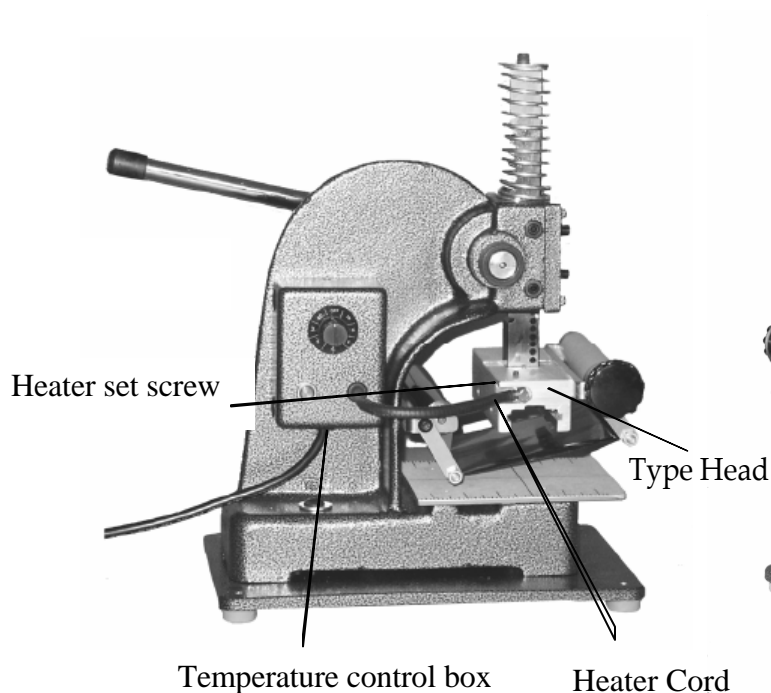

Figure 1
2. Loosen set screw on top of type head. (Figure 1)